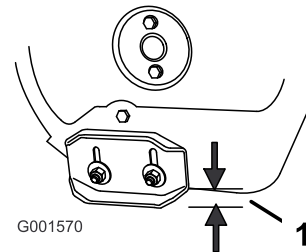

Figure 38
2. Loosen the nuts that secure both skids to the auger sides until the skids slide up and down easily (Figure 38).